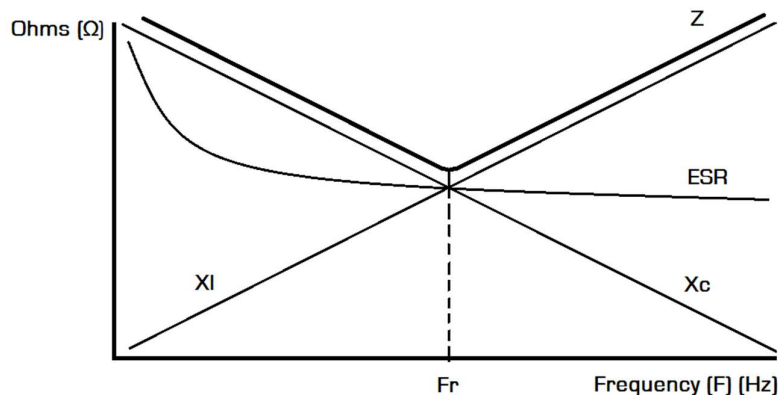

Figure 5
$F_r = 1/(2*\pi*\sqrt{ESL*C})$. Figure 5 shows the relationship between the equivalent series resistance (ESR), capacitive reactance (X_c), inductive reactance (X_l) and impedance (Z).
As can be seen from figure 5, the self-resonant frequency (F_p) is when the inductive reactance (X_L) and the capacitive reactance (X_C) are equal. At this point, the impedance (Z) and equivalent series resistance (ESR) converge. Below the self-resonant point (F_p) the capacitive reactance (X_C) is the strongest aspect and the capacitor performs like a capacitor. Above the self-resonant point (F_p) the inductive reactance (X_L) is the strongest aspect, and the capacitor performs like an inductor.